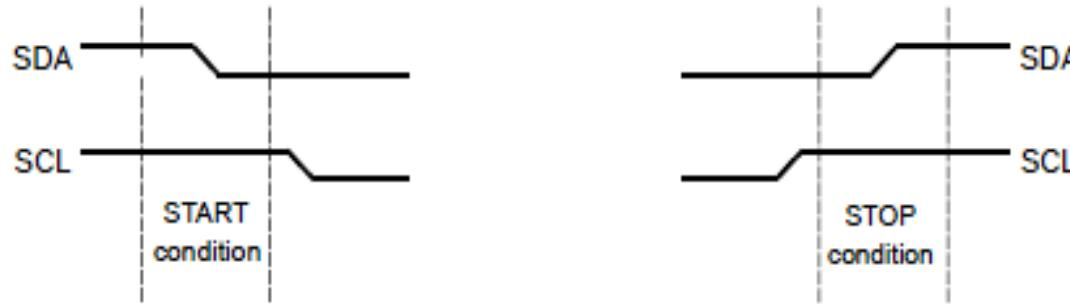

Figure 8.43 The definition of START and STOP conditions.
- Figure 8.43 shows an illustration for both **START** and **STOP** conditions.